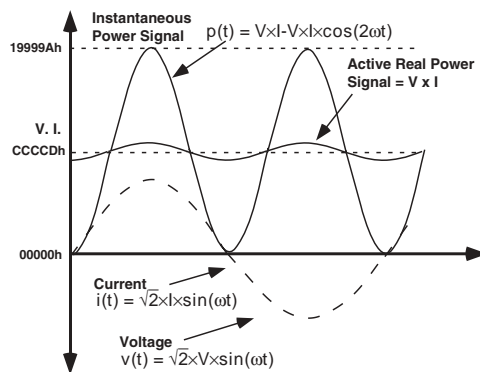

Figure 31– Active Power Calculation
P is referred to as the Active or Real Power. Note that the active power is equal to the dc component of the instantaneous power signal  $p(t)$  in Equation 3, i.e., VI. This is the relationship used to calculate active power in the ADE7753. The instantaneous power signal  $p(t)$  is generated by multiplying the current and voltage signals. The dc component of the instantaneous power signal is then extracted by LPF2 (Low Pass Filter) to obtain the active power information. This process is illustrated graphically in Figure 31.
As mentioned in the last section, the discrete time sample period (T) for the accumulation register is 1.1µs (4/CLKIN). With full-scale sinusoidal signals on the analog inputs and the WGAIN register set to 000h, the average word value from each LPF2 is CCCCdh - see Figure 31. The maximum positive value which can be stored in the internal 47-bit register is 246 - 1 or 7FFF,FFFF,FFFFh before it overflows, the integration time under these conditions with WDIV=0 is calculated as follows: